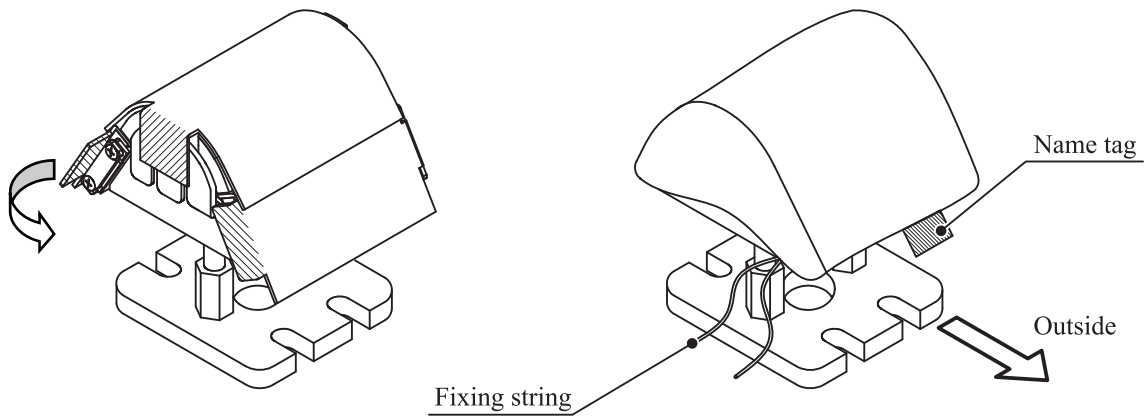

Figure-6
- ⑦ Make sure the screws and nuts are covered with the felt pad, and install the cuff cover. (Figure-6)
Make sure the surface of cover (with name tag and string) is facing outside of the machine. (Figure-6)